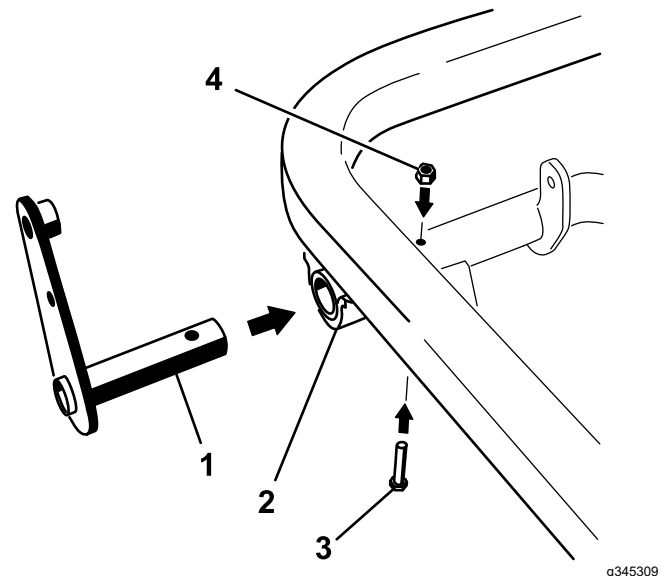

Figure 13
1. Slide the post on the lever assembly into the left end of the pivot tube, and secure it with a bolt (5/16 x 2 inches) and a locknut (5/16 inch) through the pivot tube (Figure 13).
3. Torque the center pivot bolt (item 4 in Figure 13) to 175 to 225 inch-lb (20 to 25 N·m).